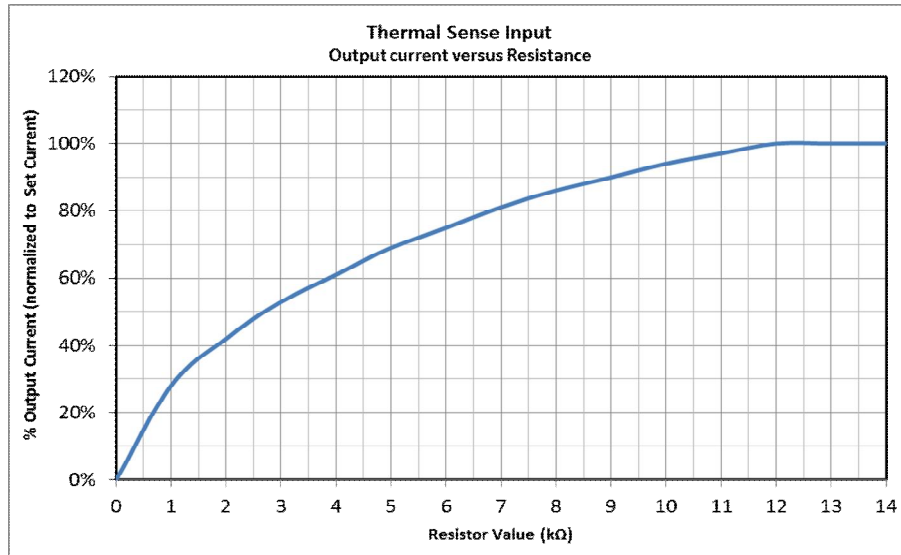
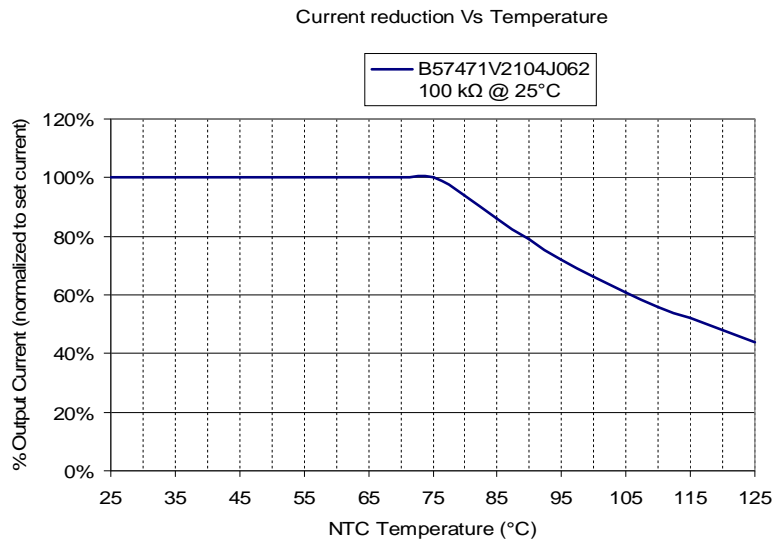

Figure 3: Output Current (%) along Thermistor (NTC) Resistance Value
Figure 4: Output Current (%) along NTC Temperature
According to Figure 3, when the Over Temperature Condition is removed, the Output current comes back gradually to its original Value ($I_{OUT} = 100\% I_{SET}$).
Figure 3 shows that the Output Current reduction starts when the NTC resistance measured by Meso50 is around 10kΩ. This is the key parameter to take in consideration to choose the more appropriate NTC to realize the required Current Reduction behavior.
For example, if the Current Reduction has to start from around 75-80°C, a NTC with 10kΩ-12kΩ @ 80°C has to be chosen. Here below you can find some examples that use SMD NTC devices produced by Epcos; of course, Epcos Codes mentioned are only for a design reference. In fact, different Epcos codes or NTC produced by other manufacturers can be used and the diagram of the Current Reduction Vs NTC Temperature (see Figures 4 and 5) is always obtained starting from Figure 3 and considering the R (T) characteristic of the chosen thermistor.
The graphic represented in Figure 4 refers to the current reduction caused only by the LED Over Temperature protection. The effect of the current reduction due to dimming is excluded (Dimming = 100%).
The graph depicted in Figure 3 can be used to determine the required resistance characteristics of alternate NTC resistors; the general rule that comes from it is that if a knee at lower temperature is required, then the resistance value @25°C has to be reduced, whereas if a knee with a higher temperature is admitted then the R_{25} value has to be increased.
Starting from the NTC used in the Figure 4 (B57471V2104J062 (100k Ω @ 25°C), if a lower maximum PCB temperature is required, an NTC with lower R_{25} has to be used.
The method explained above that allows to obtain the Current Reduction Vs NTC Temperature diagram (see Figures 4 and 5) is valid regardless of the NTC used.